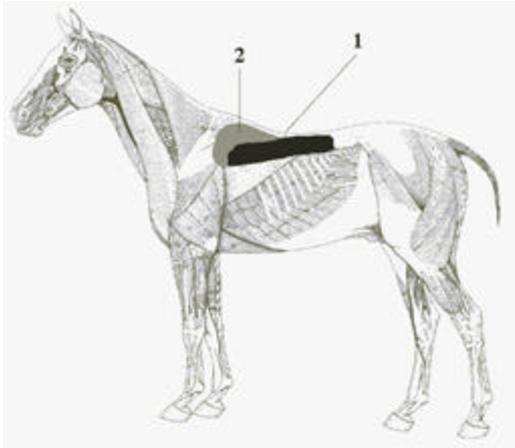

Figure 4
To completely eliminate damage to the wither area and maintain free shoulder movement the contact area can be extended over the rear of the shoulder blade. This contact must be very flexible and give, without hindering the shoulder or applying the rider's weight. Figure 4 indicates the revised contact area, after taking stability and freedom of movement into account by combining the load bearing area (1) and stability area (2).